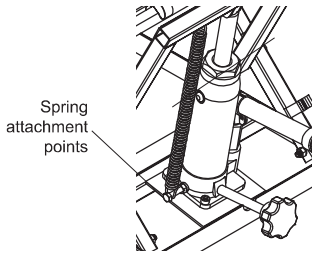

Figure 2 - Spring attachment
- Attach one end of Return Spring to bolt on Bottle Jack base and other end to Attachment Pin (reference Fig. 2).